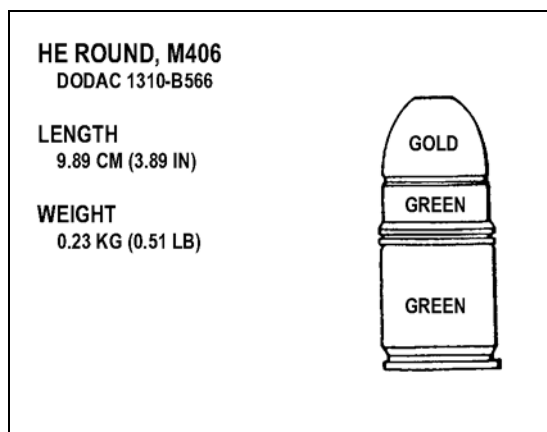

Figure 3-11. HE round.
(2) **High-Explosive Round.** The HE round has an olive drab aluminum skirt with a steel projectile attached, gold markings, and a yellow ogive (Figure 3-11). It arms between 14 and 27 meters, produces a ground burst that causes casualties within a 130-meter radius, and has a kill radius of 5 meters.